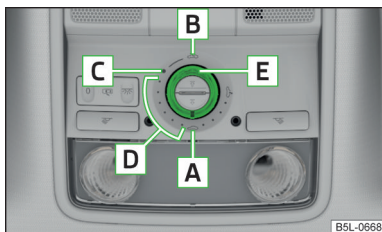

Fig. 23
- If, for example, the battery has been disconnected and reconnected, it is possible that the sliding/tilting roof does not operate correctly. Next, move the rotary switch into position  » Fig. 23 on page 45, pull the recess firmly downwards and hold forwards firmly. The sliding/tilting roof opens and closes again after around 10 seconds. Do not release the control dial until it has done so.
- If, for example, the battery has been disconnected and reconnected, it is possible that the sun screen does not operate correctly. Then turn the switch to position  » Fig. 23 on page 45 and press and hold the button  » Fig. 24 on page 45. The sun screen opens and closes again after around 10 seconds. Do not release the control dial until it has done so. ■
- Turn the switch to position **C** » Fig. 23.
- Turn the switch to a position in area **D** » Fig. 23.
- Turn the switch to position **B** » Fig. 23 and hold it in this position (spring-tensioned position).
- Turn the switch to position **A** » Fig. 23.
The sliding/tilting roof is fitted with a force limiter. The sliding/tilting roof stops and moves back several centimetres when it cannot be closed because there is something in the way (e.g. ice). The sliding/tilting roof can be fully closed without a force limiter by pressing the switch on the recess **E** » Fig. 23 down and then pushing it forward until the sliding/tilting roof is fully closed » **!**.